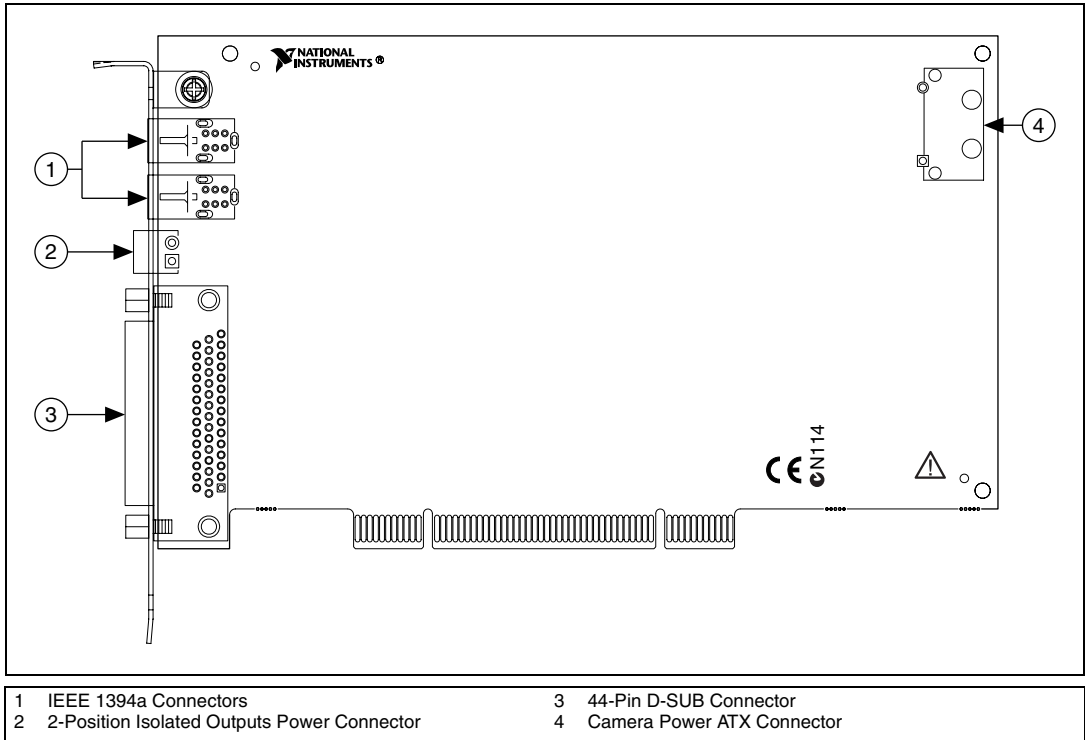

Figure 1. NI 8254R Connectors
8. To provide power to your camera, connect an unused power connector from the ATX power supply on your computer to the Camera Power ATX connector on your NI 8254R, shown in Figure 1.
Figure 1 shows the information about placement of the connectors on the NI 8254R.
11. Connect the IEEE 1394a cable to an IEEE 1394a connector on the NI 8254R front panel. Refer to Figure 1 for the location of the IEEE 1394a connectors on the NI 8254R.